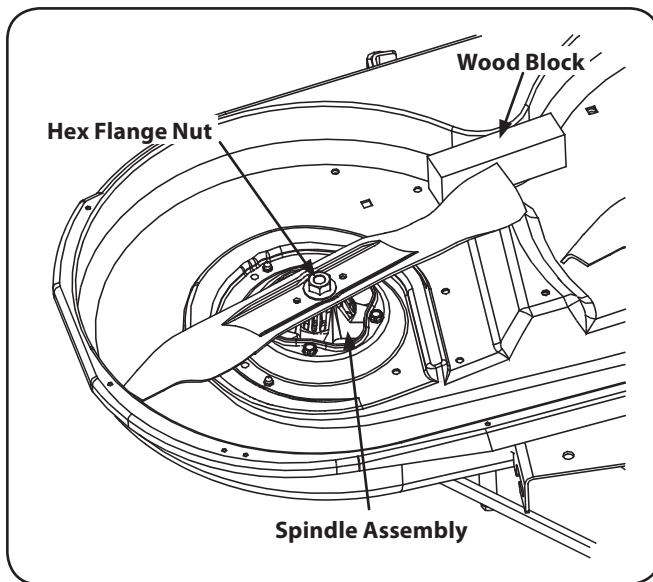

Figure 7-14
2. Use a $\frac{15}{16}$ " wrench to hold the hex nut on top of the spindle assembly when loosening the hex nut securing the blade. A block of wood may be placed between the deck housing and the cutting edge of the blade to help in breaking loose the hex nut securing the blade. See Figure 7-14.